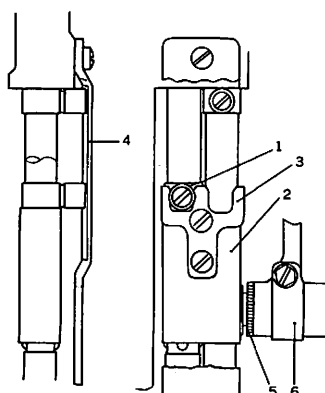

Fig. 24
Needle bar position guide (1) in conjunction with the bifurcated needle bar position bracket (3), attached to needle bar connecting stud (2)—Fig. 24—in conjunction with needle bar position guide plate (4) keep the needle bar from rotating. In the operating mode, bracket (3) serves this purpose, while when a needle bar is stopped the channels embossed into the guide plate (4) prevent rotation.
The exact vertical position of the needle bars is important for their trouble-free engagement and disengagement, respectively, since their positions are fixed within the needle bar rock frame (20)—Fig. 23. For the purpose of making the required fine adjustment of the needle bar position, and eccentric bushing (5)—Fig. 24—is provided in needle bar connecting link (6).